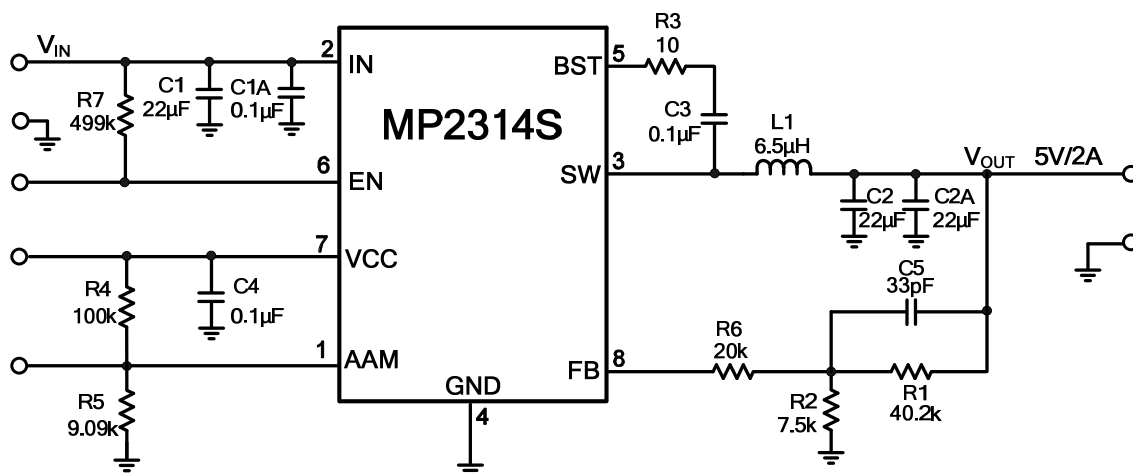

Figure 9: $V_{IN} = 6.5V - 24V$, $V_{OUT} = 5V$, $I_{OUT} = 2A$
9) The recommended layout is based on Figure 9 on page 15.
The detailed application schematic is shown in Figure 9. The typical performance and circuit waveforms are shown in the Typical Performance Characteristics section. For more device applications, please refer to the related evaluation board datasheets.